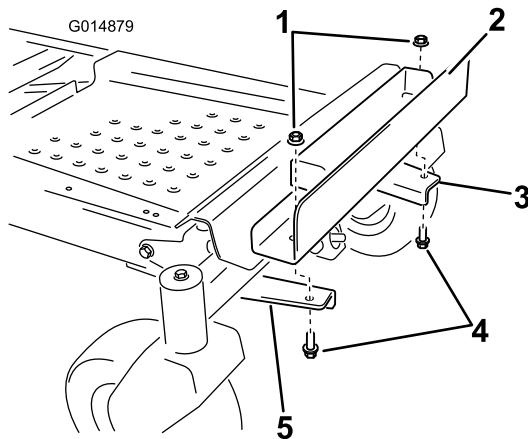

Figure 8
6. Align the outboard holes in the weight bracket with the mounting brackets installed previously (Figure 8).
7. Secure the weight bracket with 2 bolts (3/8 x 1 inch) and 2 locknuts (3/8 inch) as shown in Figure 8.